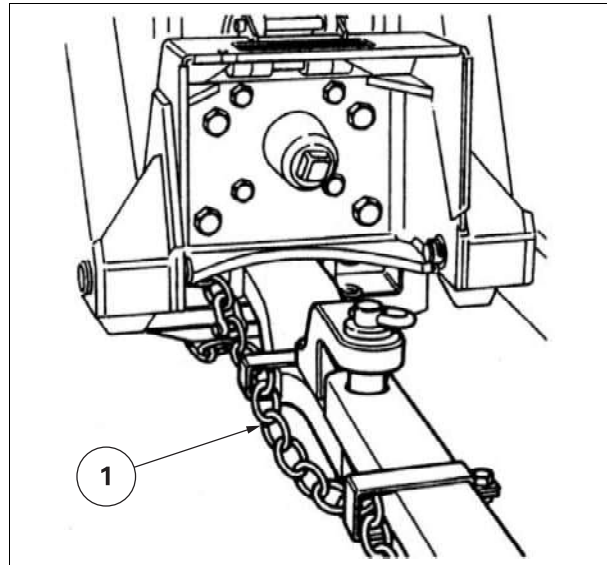

Fig. 9.
- All trailed implements and trailers should be connected to the tractor by a safety chain (1) .fig. 9